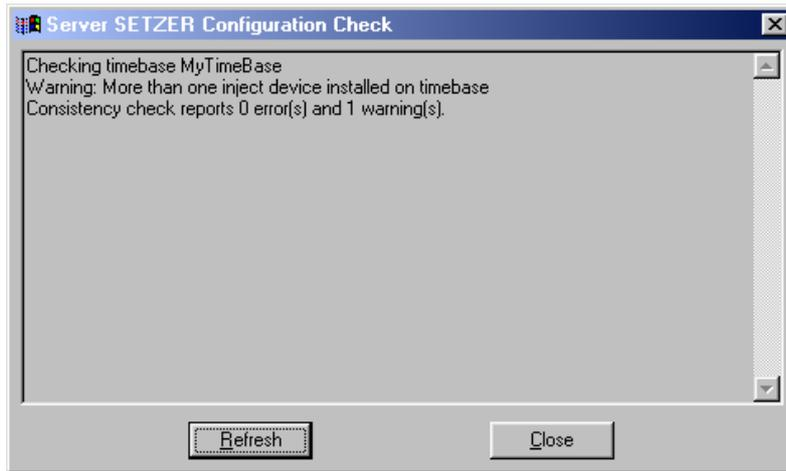

FIGURE A-12. Server Configuration Check Result
- e) If a FAMOS Microautosampler is also configured in the same Timebase, the following configuration check message will appear (FIGURE A-12). Click on **Close** to confirm the warning and to close the window.